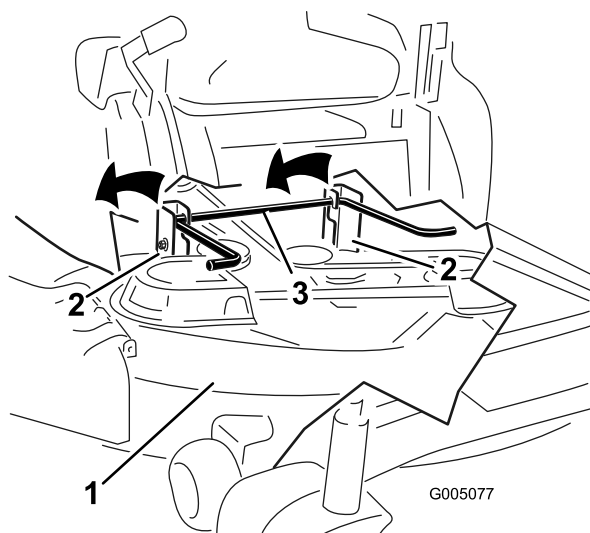

Figure 71
7. Lift the mower deck and hanger brackets clear of the rear lift rod and lower the mower carefully to the ground (Figure 71).
5. Lift the rear of the mower deck and guide the hanger brackets over the rear lift rod (Figure 71).